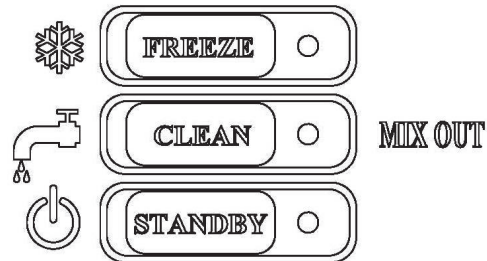
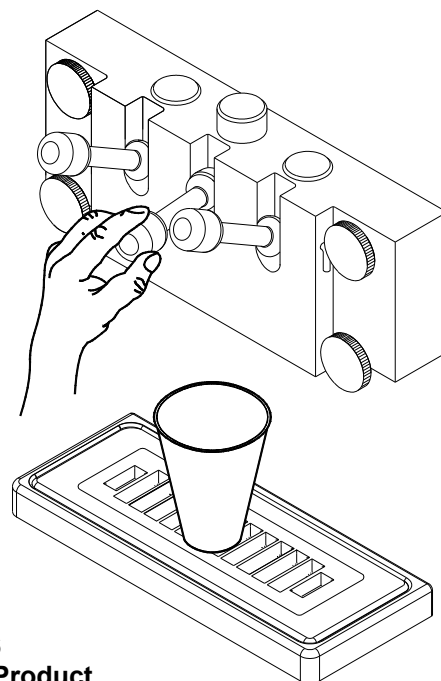

Fig. 2
Fig. 6
3. Level the unit by turning the bottom part of each leg clockwise or counterclockwise (Fig. 2). The machine **MUST** be level to operate properly.
2. Push the word "**CLEAN**" (Fig. 2) momentarily to verify the direction of rotation of the dasher. It should rotate counter-clockwise.
2. Push the word “**CLEAN**” and dispense all product from the freezing cylinder by pulling downward on the spigot handle (Fig. 6) to empty the machine. **NOTE: The buttons must be pushed and held in for 2 seconds to operate. This prevents mode changes from accidental contact.**
4. Push the word **"CLEAN"** (Fig. 2) and agitate for approximately 1 - 2 minutes and then drain the water by opening the spigots (Fig. 6). After the unit is empty, push the word **"CLEAN"** to turn off the machine.